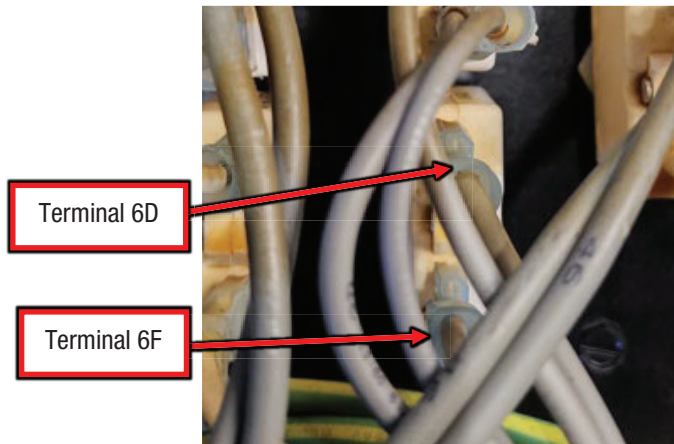

Figure F.3
A.3. Perform the static measurements in Test Table 1, refer to Figure F.3 for test point locations. NOTE: MEASUREMENTS ARE MADE ON CB3 WITH THE LEADS REMOVED.